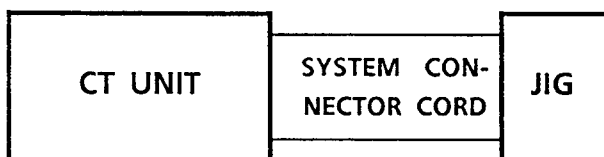

FIGURE 2 : CONNECTION DURING THE SYSTEM CONNECTOR CHECKING MODE
- Before entering this mode, connect a jig at the beginning of the system connector cord as shown in Figure 2.